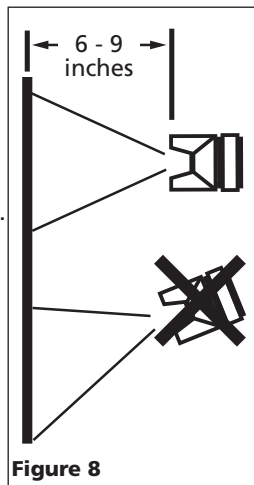

Figure 8
1. Begin spraying. Always keep the gun at right angles to the work (See Figure 8).